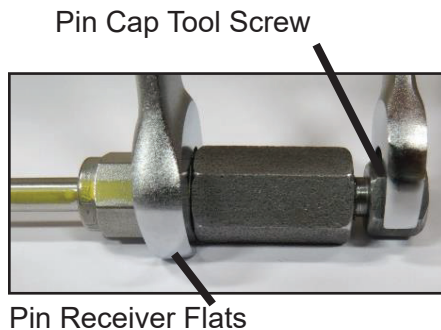

Figure 38: Tighten the pin cap tool screw.
4. Hold the pin receiver flats with a 9/16" wrench and **use a 1/2" wrench to turn the pin cap tool screw** onto the receiver until it contacts the pin cap tool base (Figure 38). **DO NOT** turn the pin receiver flats. Ensure there is metal-to-metal contact between the base of the pin cap tool and the pin receiver flats as shown in Figure 38.